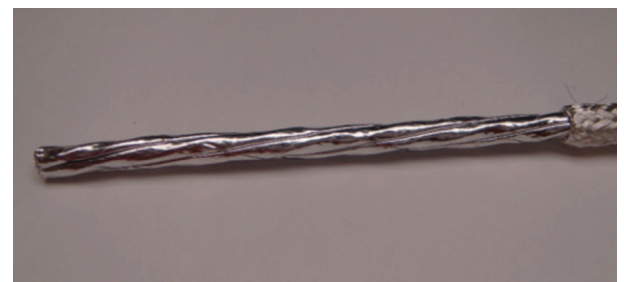

Figure 46: Exposing the foil
6. With your fingers, push the braid back over the cable to expose approximately 3.5 inches of the foil (Figure 46).